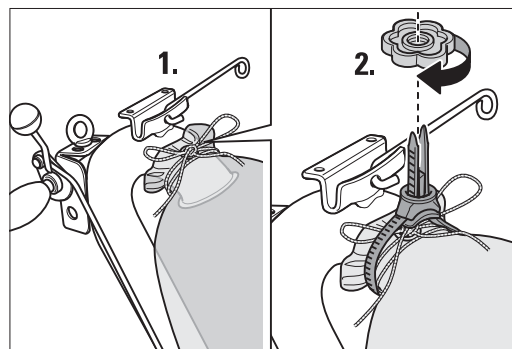

Fig. 6 Mount the dust bag without creasing using the cord and MultiClip.
- 6 Fasten the dust bag firmly using the cord and the MultiClip at the end of the guide tube, ensuring when mounting that the opening of the guide tube is not closed (Fig. 6).